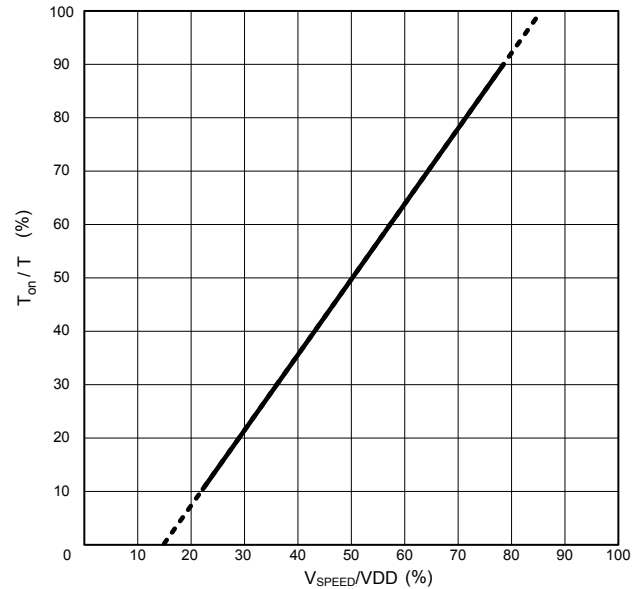

Figure 1: Speed in Relation to Duty Cycle
**SPEED.** The duty cycle of the internally generated carrier frequency is controlled by applying a DC voltage on the SPEED input. A plot showing the relationship of Speed to duty cycle is shown in Figure 1. When SPEED is pulled directly to VDD the internal carrier is disabled and the Enable input can be used to PWM the bridge. When  $V_{SPEED} < V_{SPEED(D)}$  the output is guaranteed to be 0%. When  $V_{SPEED} > V_{SPEED(E)}$  the output is guaranteed to be 100%.